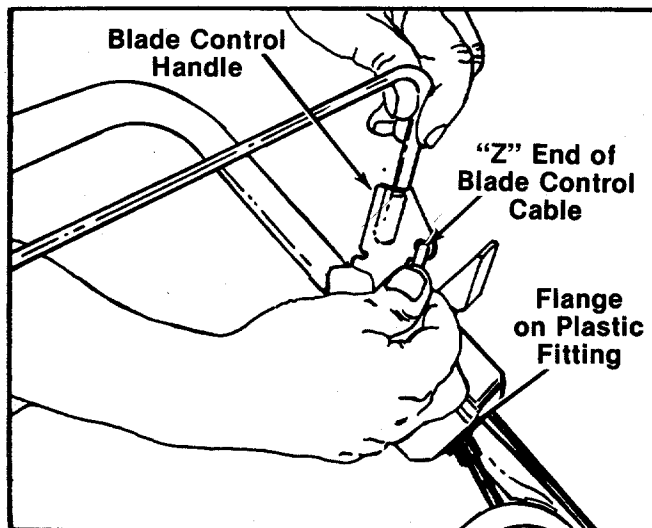

FIGURE 5.
8. Hook the "Z" end of the blade control cable into the hole in the blade control handle. See figure 5. If additional slack is needed in order to hook the cable into the handle proceed as follows: